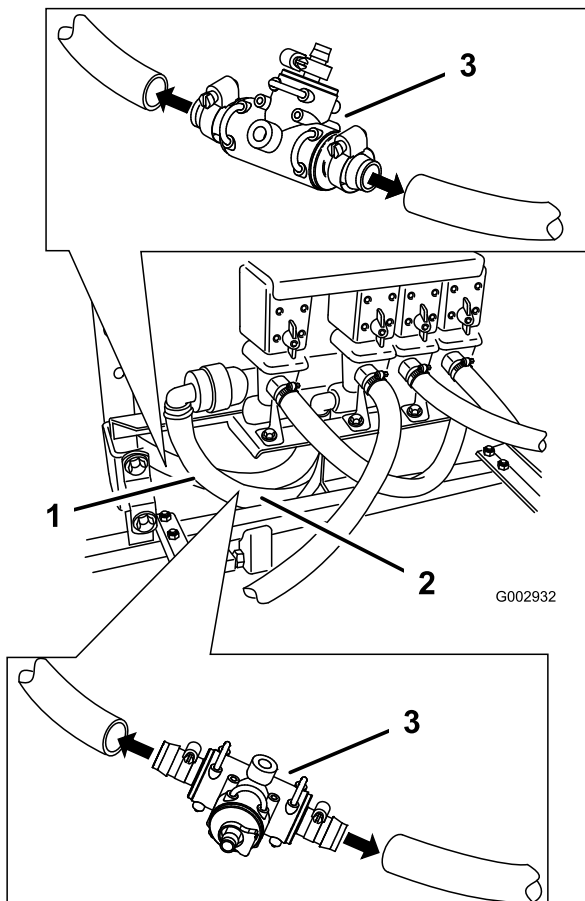

Figure 13
9. Cut the by-pass hose half way between the boom valves and the tank (Figure 13).
10. Using liquid soap on the barbs, insert an S53 tee fitting assembly into the break and secure it using 2 large, hose clamps (Figure 13).
11. Cut the agitation supply hose in half (Figure 13).
12. Using liquid soap on the barbs, insert an S53 tee fitting assembly into the break and secure it using 2 large, hose clamps (Figure 13).